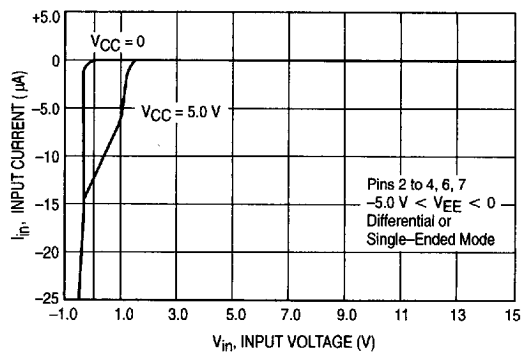

Figure 10. Output Voltage versus Output Source Current
In this mode (Pin 4 ≥ 2.0 V) V_{CC} requires +5.0 V, and V_{EE} requires -5.0 V, both $\pm 5.0\%$. Pins 2, 3, 6, and 7 are inputs for the four drivers, and Pins 15, 14, 11, and 10 (respectively) are the outputs. The four drivers are independent of each other, and each output will be at a positive or a negative voltage depending on its input state, the load current, and the supply voltage. Figures 10 & 11 indicate the high and low output voltages for $V_{CC} = 5.0$ V, and $V_{EE} = -5.0$ V. The graph of Figure 10 will vary directly with V_{CC} , and the graph of
The above equation assumes I_O has the same magnitude for both output states, and makes use of the fact that the absolute value of the graphs of Figures 10 and 11 are nearly identical. I_{B+} and I_{B-} are obtained from the right half of Figures 12 and 13, and $(V_{CC} - V_{OH})$ can be obtained from Figure 10. Note that the term $(V_{CC} - V_{OH})$ is constant for a given value of I_O and does not vary with V_{CC} . For an application involving the following conditions:
2) The device may be operated in the single-ended mode (Pin 4 = 1) with V_{EE} connected to any voltage between ground and -5.25 V. Outputs in the high state will be at a voltage as shown in Figure 10, while outputs in a low state will be referenced to V_{EE} .